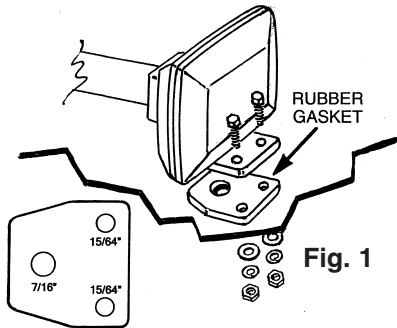

Fig. 1
1. Locate the desired area you wish to mount the Giant air horn. For best results, the front of the horn should be unobstructed so that the horn's sound can project straight ahead. Use the horn's gasket as a template, mark hole locations and drill to size. See fig. 1.
INDEPENDENT COMPRESSOR / TANK MOUNTING (Fig. 1):